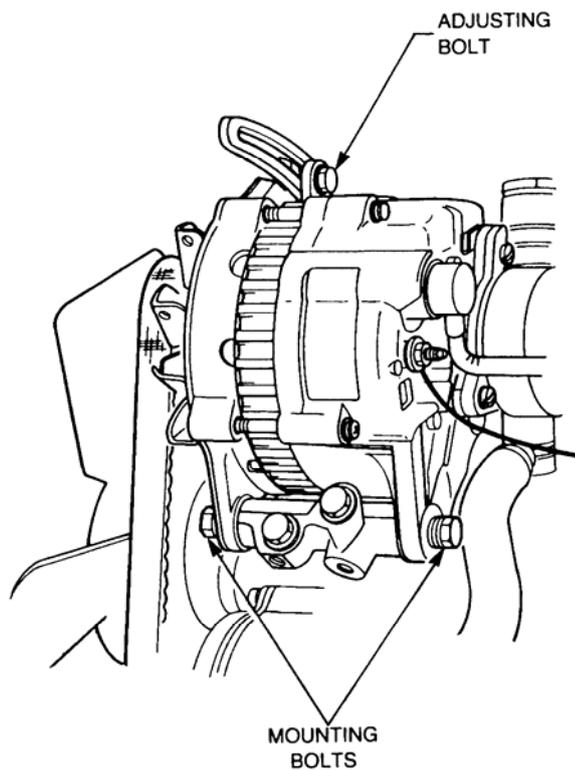

Figure 2 Fanbelt Replacement
- Loosen the 12 volt alternator mounting bolts and adjusting bolt (refer Figure 2).